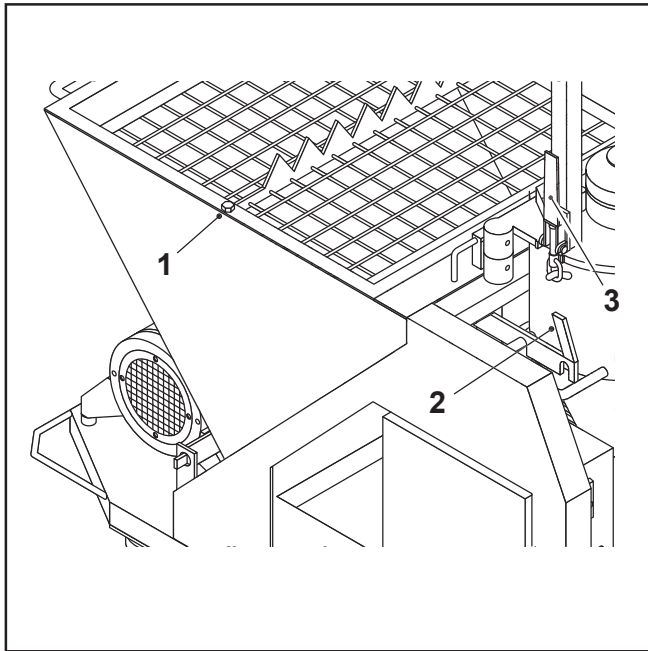

FIG.16
- Check that the protection grid on the hopper is properly secured with the screw shown in the figure (FIG.16-REF.1).
- Check that the mixing unit is properly locked (FIG.16-REF.2) and the gear motor's support closing hook (FIG.16-REF.3) is firmly closed.